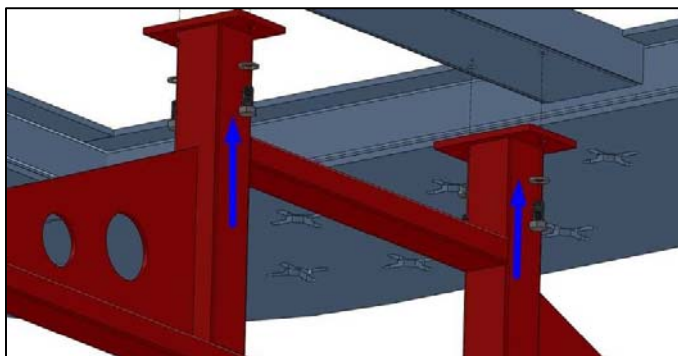

Fig. 6.2
6.1.2 Fixing support installation: Lift the platform over 500mm, install the fixed support with four bolts. See figure 6.2